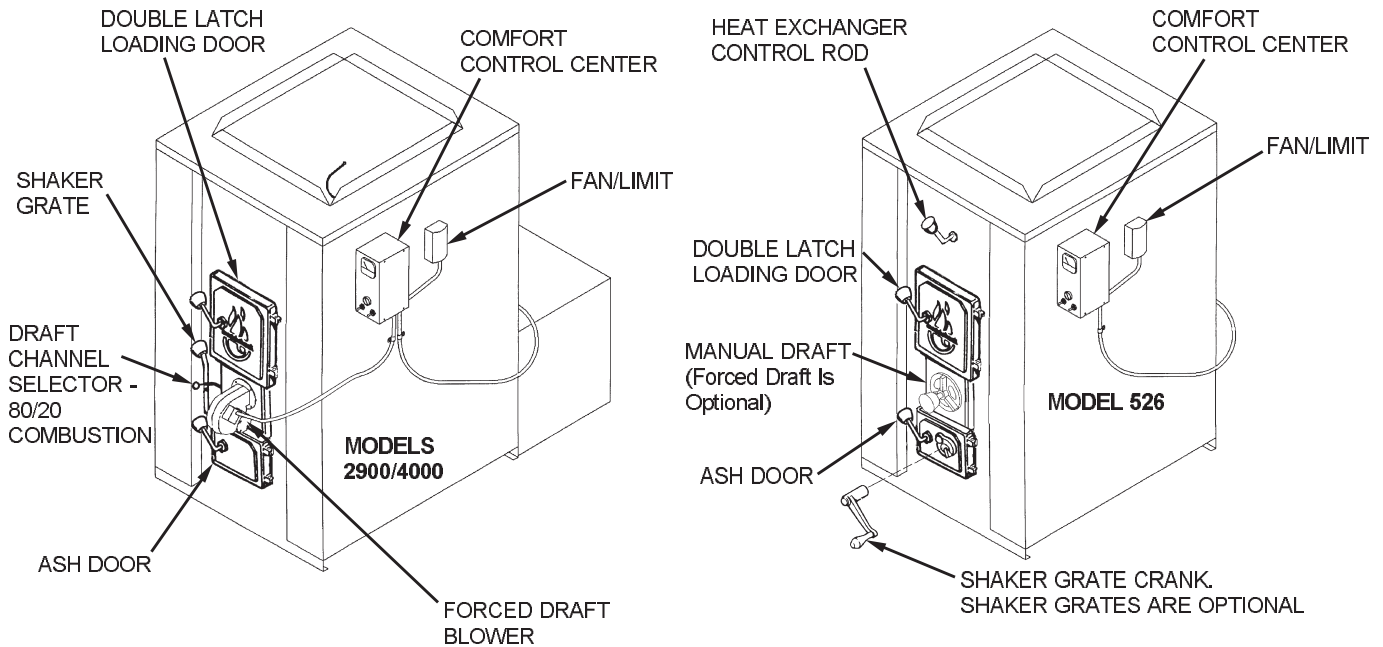

FIGURE 5 WOODCHUCK CONTROLS
The first thing to check is that your main blower and draft blower are in working order before lighting a fire. To check the operation of the main blower, push the manual override button on the fan/limit control for testing. When finished, reset to automatic position, figure 5. Next, turn the thermostat upstairs to a higher temperature then room temperature so the draft blower turns
1. Adjust draft channel selector, figure 5, to appropriate fuel setting on Model 2900/4000. (On model 526 with manual draft, open it fully. Also on the Model 526 pull the manual draft selector rod on the front of the unit fully out. This will allow the draft to exhaust out the rear of the stack and create a hotter burn. Adjust back in once the fire is established to maintain proper stack temperature.) Place several pieces of crumpled paper in the center of your Woodchuck. Criss-cross a couple of handfuls of dry kindling wood 3/4" thickness, then several small dry pieces of firewood. Ignite the paper and close the door. Do not attempt to open the door immediately after igniting the fire. There could be a flame flash out.